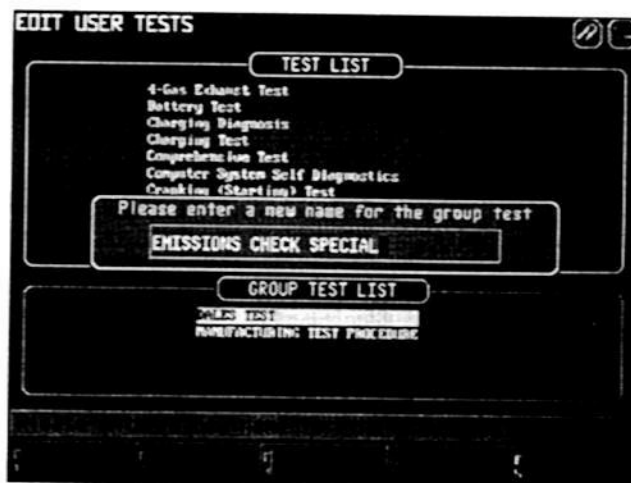

Figure 5-25
1. From the "Edit User Tests" screen, press [F5]. A dialog box appears (see Figure 5-25).